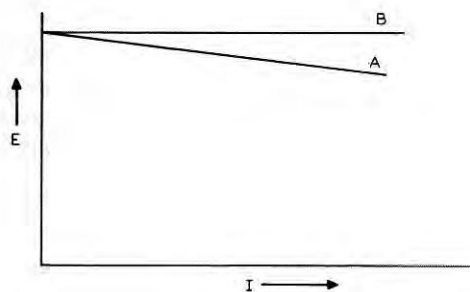

Figure 13
In Figure 13 line A represents the output of a typical power supply. As the current (I) increases, the voltage (E) decreases. Line B represents a regulated Power Supply where the voltage remains constant with increasing current.